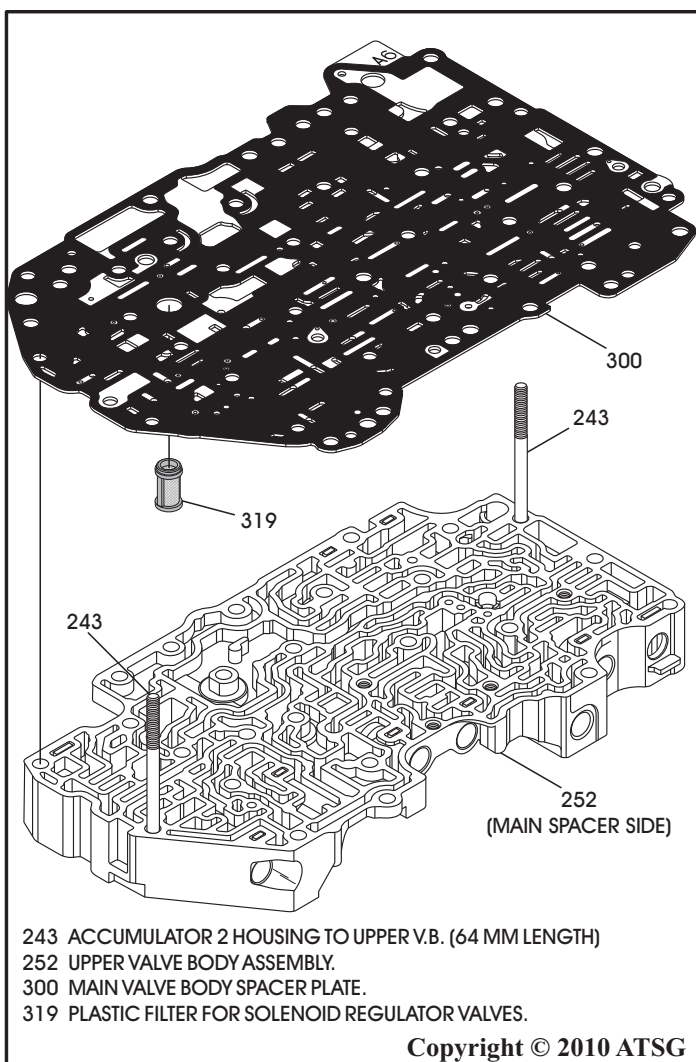

Figure 154
14. Install the plastic filter into the valve body spacer plate, as shown in Figure 154, with the open end towards spacer plate.
15. Temporarily install two of the long accumulator housing bolts through bottom of upper valve body, as shown in Figure 154, for alignment of the spacer plate.
16. With all small parts in place, carefully install the spacer plate and filter assembly over alignment bolts, as shown in Figure 154.